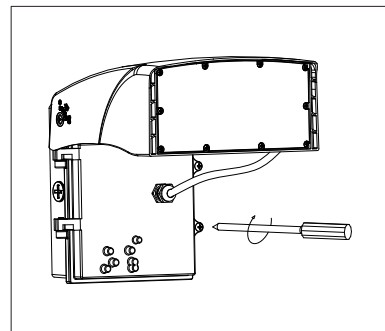
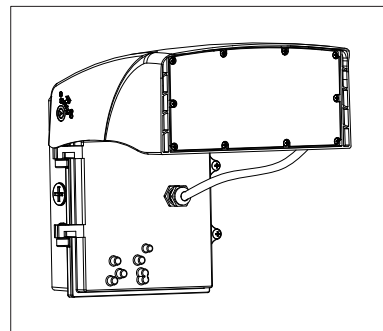

Figure 12
Figure 13
**STEP 8:** Well organize the line and tighten the screws of the lamp base (Figure 12 & Figure 13)